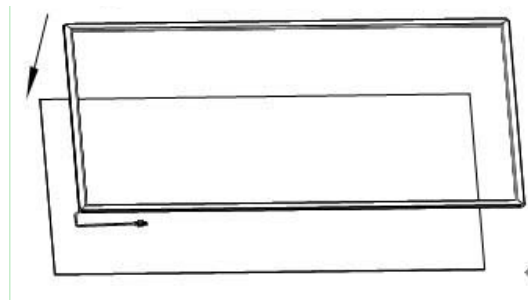

Fig. 12 Schematic Diagram of Installation the Touch Frame
- 6) Align the touch frame and toughened glass, press the touch frame all around to make sure the touch frame and toughened glass paste firm, as shown in Fig. 12.